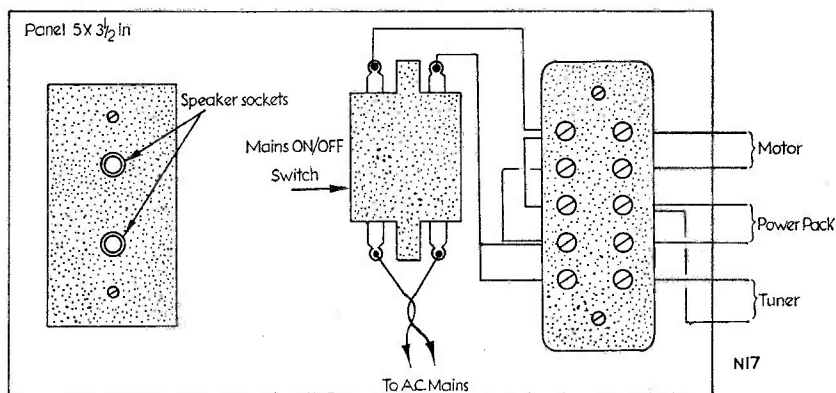

Fig. 17. Layout of the distribution panel
As mentioned earlier, the distributor panel is used for inter-connecting purposes. It is illustrated in Fig. 17. It consists of a 2-pole on/off switch which ensures that the mains supply is completely disconnected when in the "off" position, a 5-way connecting block and a socket strip for feeding the external loudspeaker. The mains supply must be distributed to three points: (1) the gram motor, (2) the amplifier power pack, (3) the tuner. The way this is done is shown in the diagram. The panel is secured to the hardboard back of the cabinet (which is clip fitted) so that the on/off switch dolly is easily accessible. The separate units can then be connected or removed speedily and safely by laying the back of the cabinet flat. All leads should be made long enough to permit plenty of free movement.
Components List (Fig. 17)